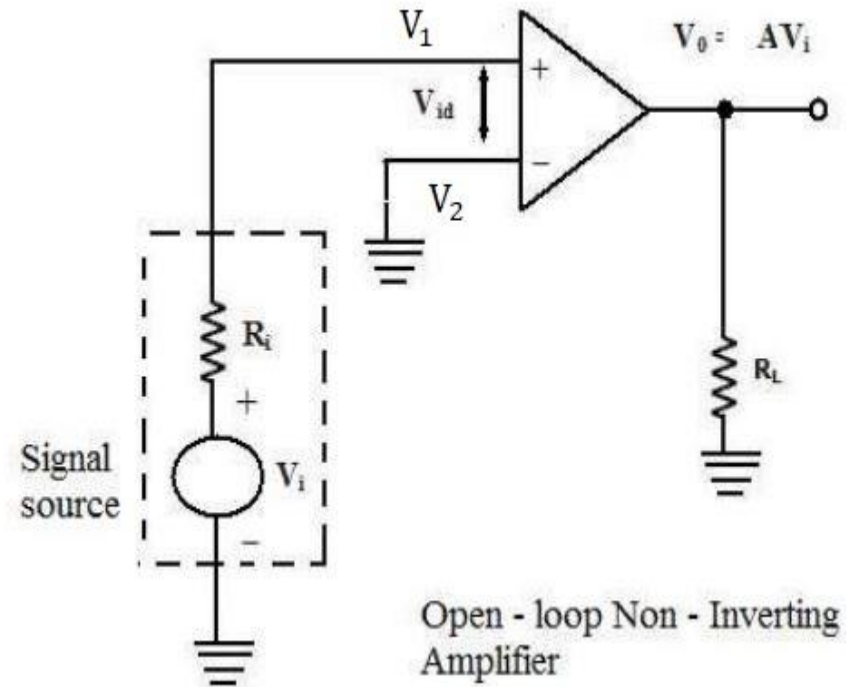

Fig. 11. Open-loop non-inverting amplifier
- Open-loop noninverting amplifier is shown in Fig. 11.
- From Fig. 11,